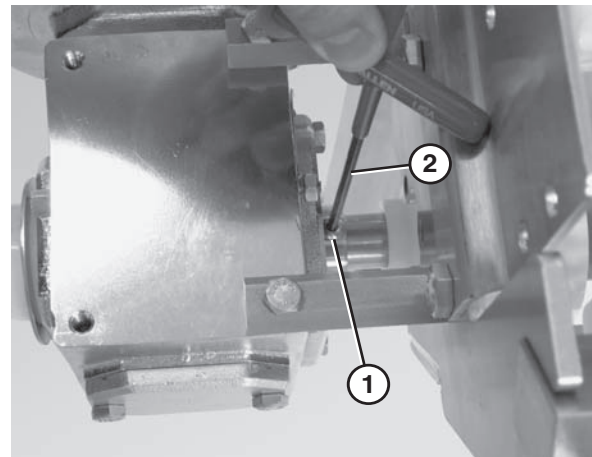

Figure 54
1. Loosen the fasteners (**Figure 54, item 1**) that connect the gearmotor to the drive spindle using a hex wrench (**Figure 54, item 2**).